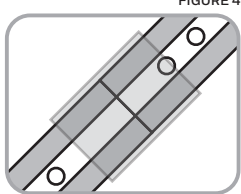

FIGURE 4
9. Snap the provided clear securing clip over the connection point over the lens to firmly join the strips together (see Figure 4).